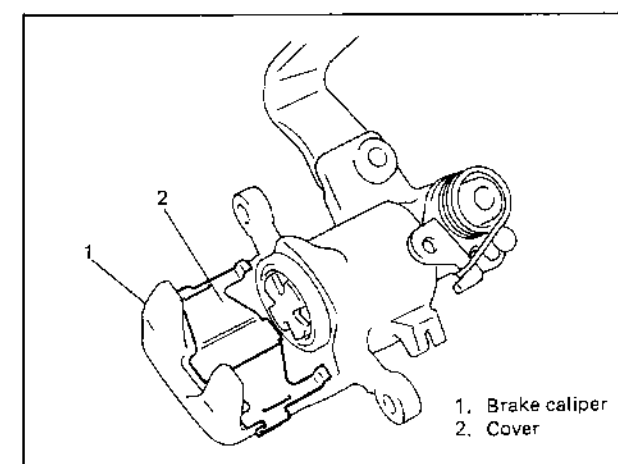

Fig. 5-83
- 1) Install cover to caliper. (Refer to Fig. 5-83.)